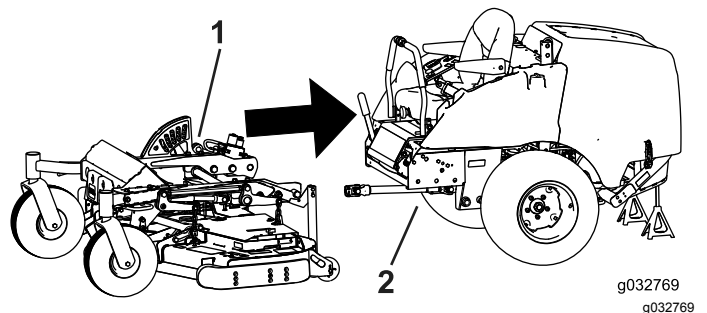

Figure 119
1. Align the summer frame to the machine frame and roll it back (Figure 119)